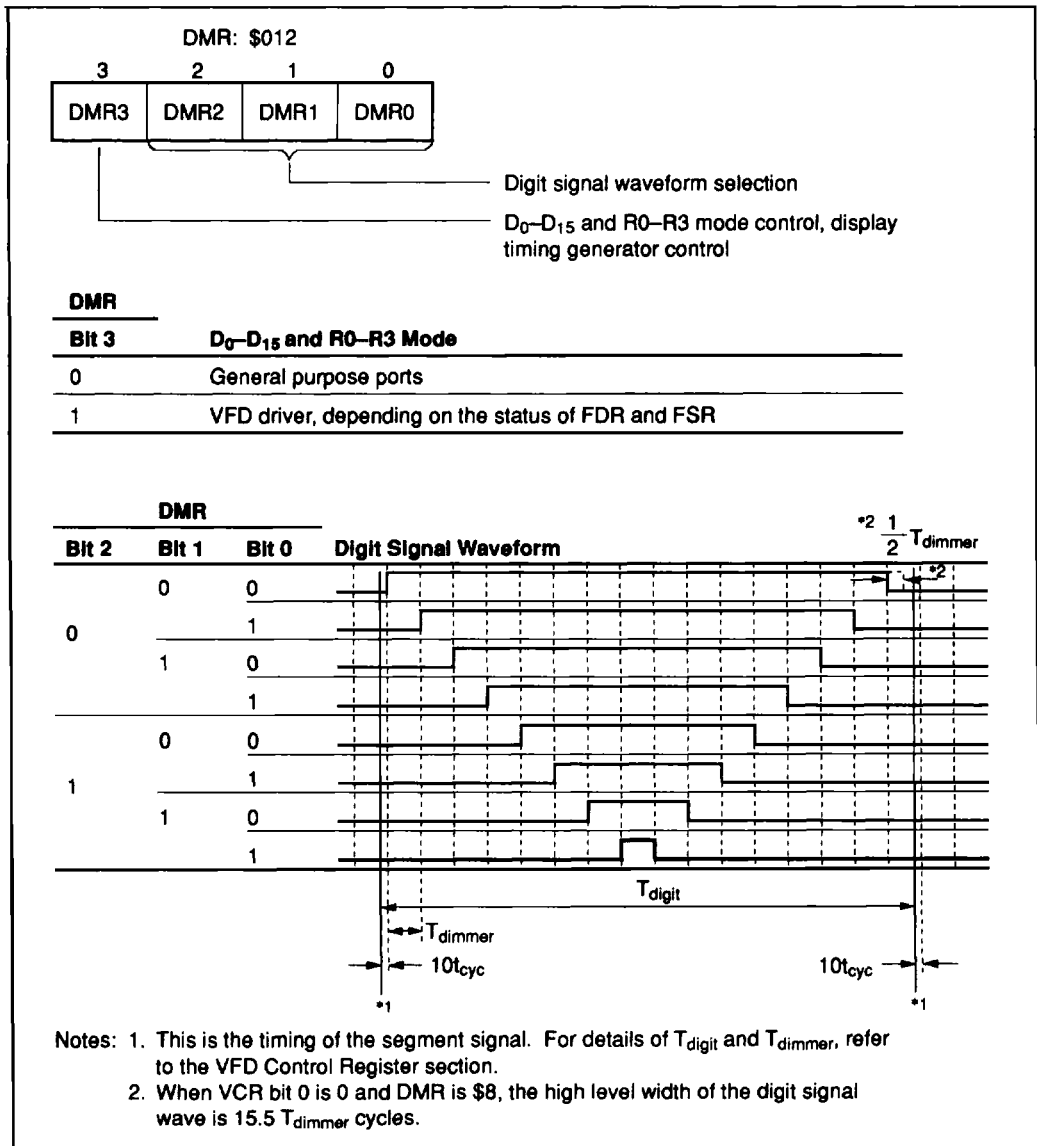

Figure 45 Dimmer Mode Register
**Dimmer Mode Register (DMR: \$012):** Four-bit write-only register which controls the VFD driver pin mode and a digit signal output waveform (figure 45). Eight waveforms can be selected. The DMR is initialized to \$0 by MCU reset.